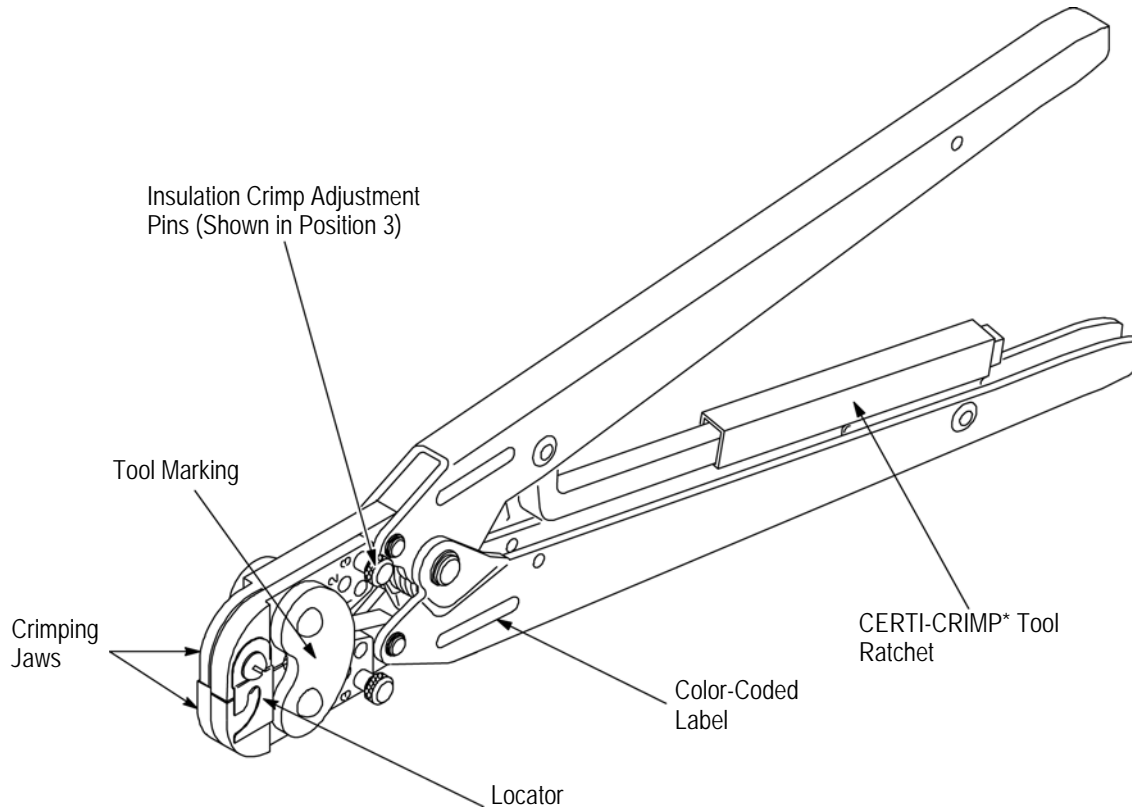

Figure 1
TE Connectivity Hand Crimping Tools 45160 and 45575-1 (shown in Figure 1) are used to crimp PLASTI-GRIP* butt splices (listed in Figure 2) onto stranded or solid wire sizes 22 through 14 AWG.
2. DESCRIPTION (Figure 1)